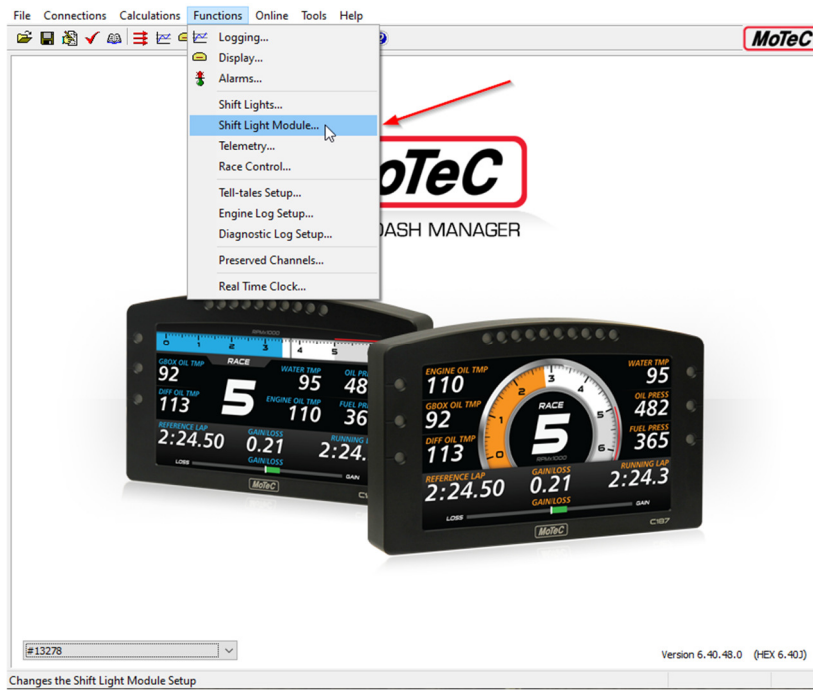

Figure 4.61: Motec Dash Manager – shift light module.
2. Navigate to the 'Shift Light Module...' shown in Figure 4.61.